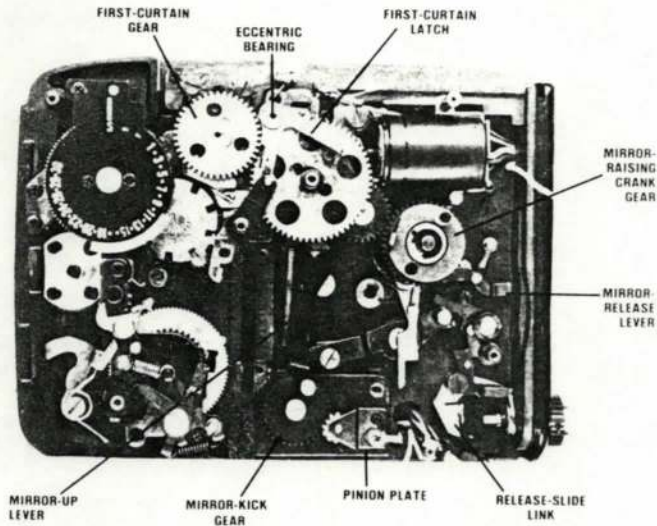
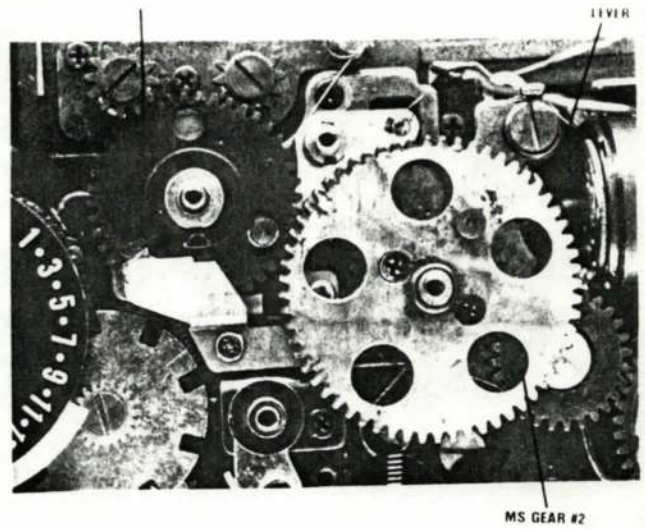

Figure 8
Figure 13
1. hold the release-slide link (Fig. 8), against the release button as you seat the winding base unit.
However, except in the very early models, the first-curtain latch also has an eccentric (Fig. 8) for shutter-speed accuracy. The eccentric bearing for first-curtain latch allows you to precisely adjust the mirror-up shutter speed with the shutter speed delivered in normal operation.
You can also check the sequence with the winding base unit removed. To cock the shutter, rotate the mirror-raising crank gear (Fig. 8) in a counterclockwise direction. Push down the mirror-release lever (Fig. 8) to release the mirror; the mirror should move up and release the first curtain. Release the second curtain by pushing down the manual-disengaging lever (the lever that the battery-test button comes against, Fig. 13). To return the mirror, push the mirror-up lever (Fig. 8) out of engagement with the mirror-lifting arm.
Install the first-curtain gear as shown in Fig. 8. Then rotate the mirror-raising crank gear counterclockwise to advance the curtains about half way across the aperture.
Before installing MS gear #2 (Fig. 13) rotate the shutter-charging gear to position its lug as shown in Fig. 13. Then seat the MS gear with its pin at the 90-degree angle indicated.